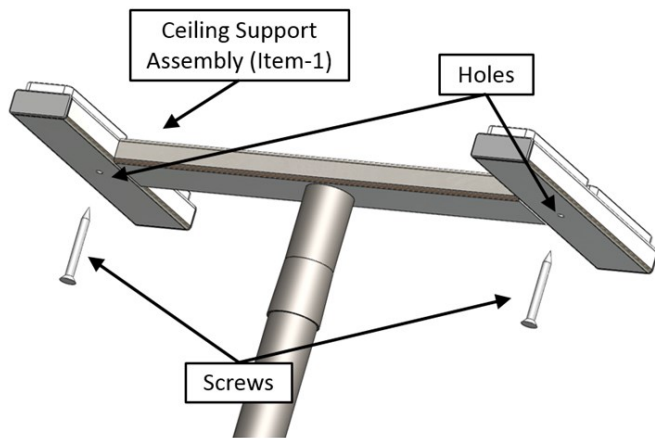

FIGURE 4
- If additional securing is needed, the 2 included screws can be installed through the holes in the Ceiling Support Assembly (Item-1) and into the ceiling joists (wood structural members located in the ceiling), as shown in Figure 4. This would require removing the plastic plugs from the holes in the Ceiling Support Assembly (Item-1).